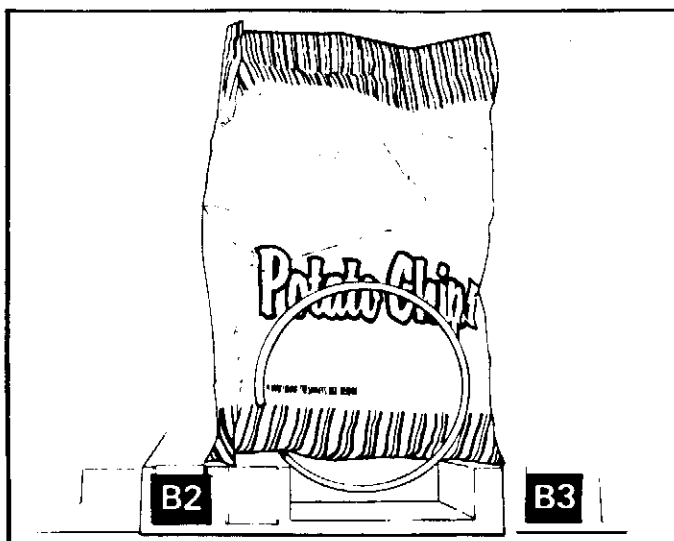
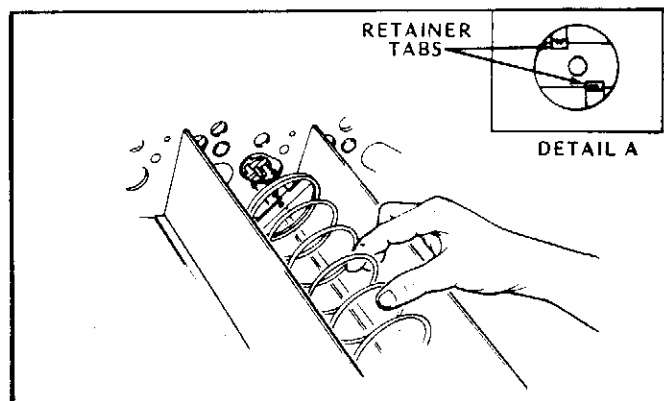
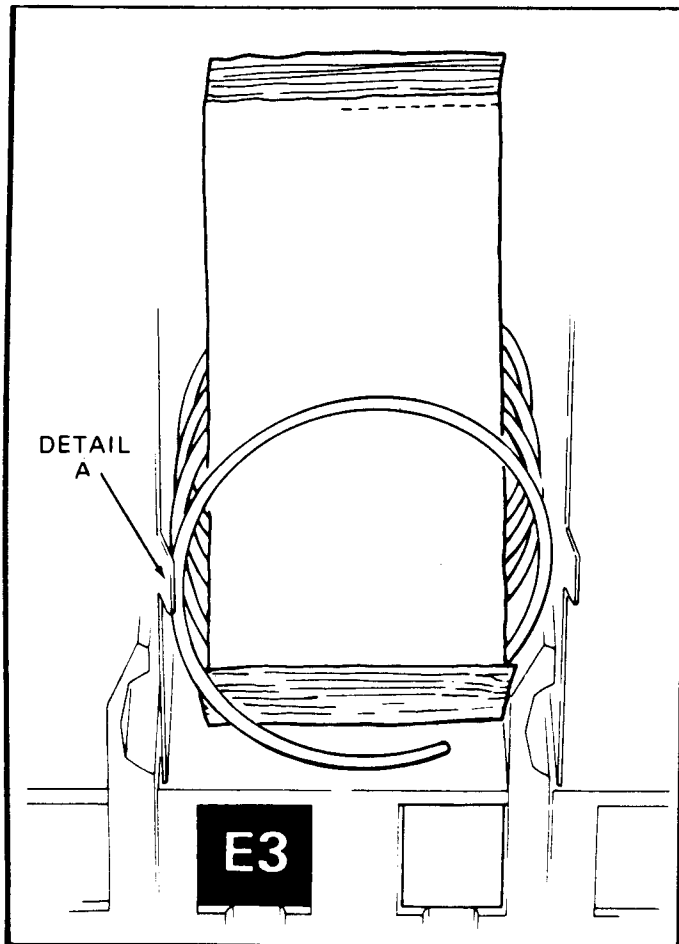

Figure 2. PLACEMENT OF PRODUCT ON MAIN PRODUCT SNACK SHELVES AND FRONT END POSITION OF SPIRAL.
Figure 3. REMOVING AND INSTALLING SPIRAL.
Figure 5. PLACEMENT OF PRODUCT ON MAIN PRODUCT CANDY SHELVES AND FRONT END POSITION OF SPIRAL.
IMPORTANT: Product must not be forced into the spiral spaces but should fit freely. If the product is too tight, use a larger pitch spiral. The bottom of the product should be placed on top of the spiral wire that rests on the shelf surface (see Figure 2). The width of the product must be greater than the diameter of the snack spiral. If it is smaller, the product may fall through when it is in the front, ready to vend position.
5. **REMOVAL OF SPIRAL:** To remove the spiral, grasp the spiral near the rear of the shelf and pull forward. To install a spiral, align the hole in the cross strap, at the rear of spiral, with the motor shaft. (See Figure 3). Be sure the front end of the spiral is positioned properly (with the front end of spiral pointing downward on the left side) (see Figure 2); align strap between retainer tabs on spiral retainer (see Detail A, Figure 3) attached to motor shaft, push spiral to rear until both tabs snap over strap (see Figure 3). Give a light forward pull on front of spiral to check if it is locked in place.
7. **LOADING MAIN PRODUCT CANDY SHELVES:** The 10-selection (candy type) shelves are loaded similar to the 5-selection shelves except that the bottom of the product sits on the shelf in front of the spiral wire (see Figure 5) that rests on the shelf. These products must also fit properly in the spiral space; do not force product into spiral.
These spirals are removed and installed the same as the large spiral (see Figure 3), except that the front end position is different (approximately 5 o'clock) (see Figure 5) and the front left side of the spiral must be behind the small tab located on the left side of the product space side wall (see Figure 5, Detail A).